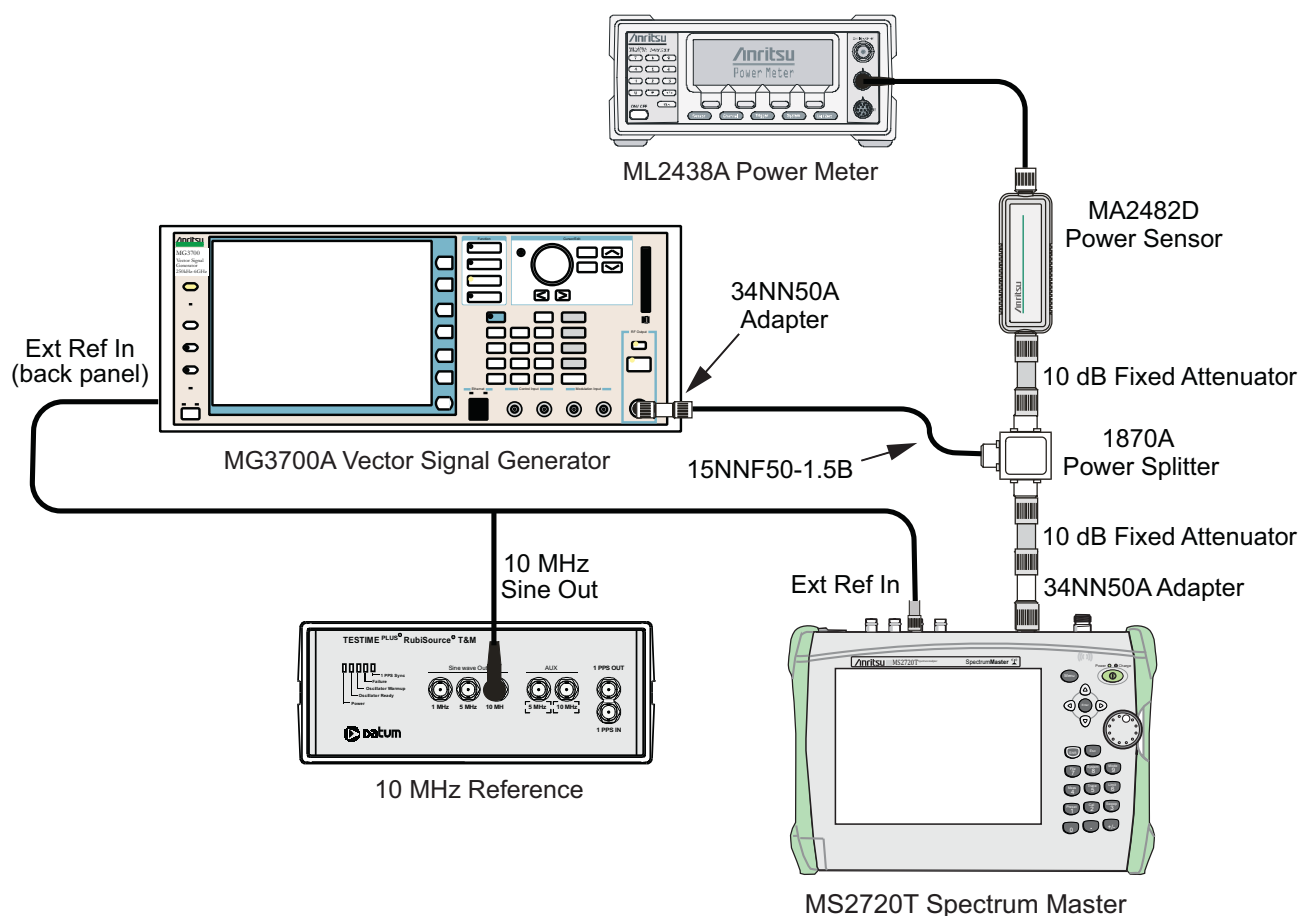

Figure 3-14. Mobile WiMAX Channel Power Accuracy Test Setup
4. Connect all of the test equipment as shown in Figure 3-14.